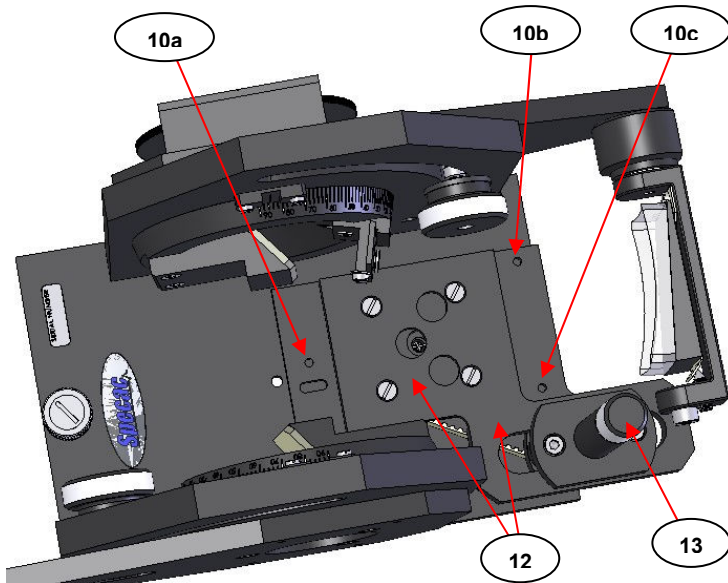
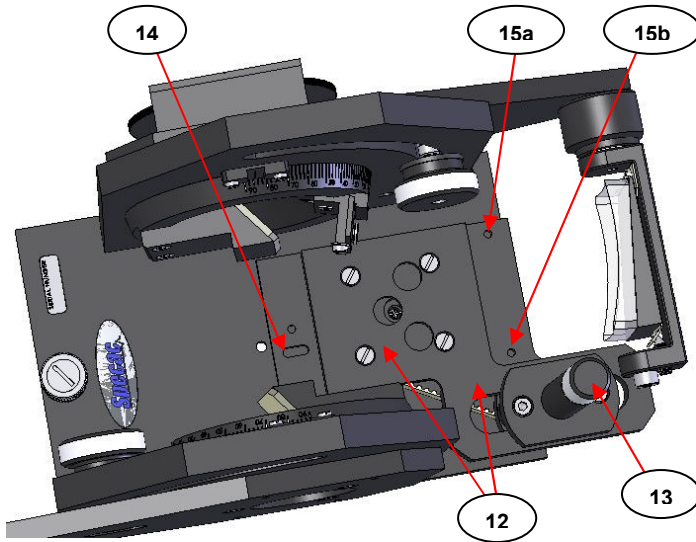

Fig 7. Screw Fixing Positions for the Liquid Sampling Platform Assembly on the Height Adjustment Mechanism
Fig 9. Dowel and Screw Fixing Positions for the Solid Sampling Platform Assembly on the Height Adjustment Mechanism
Fig 7. shows the screw fixing positions for (10a, 10b and 10c) on the height adjustment mechanism (12) for the liquid sampling platform assembly (4) when the liquid sampling platform assembly (4) has been removed from the Monolayer Grazing Angle Accessory.
Fig 9. is similar to **Fig 7.** and shows the main Monolayer Grazing Angle Accessory components when there is **no** liquid or solid sampling platform fitted to the height adjustment mechanism (**12**), but shows the fixing positions for the dowel pin (**14**) and two screws (**15a** and **15b**) for the solid sampling platform assembly (**11**). Unlike the screw (**10a**) fixing position used for the liquid sampling platform (**4**), the dowel pin (**14**) for the solid sampling platform (**11**) locates into the horizontal slot of the height adjustment mechanism (**12**). The two screws (**15a** and **15b**) of the solid sampling platform assembly (**11**) correspond for a similar fixing as the screws (**10b** and **10c** respectively), used for the liquid sampling platform assembly (**4**).